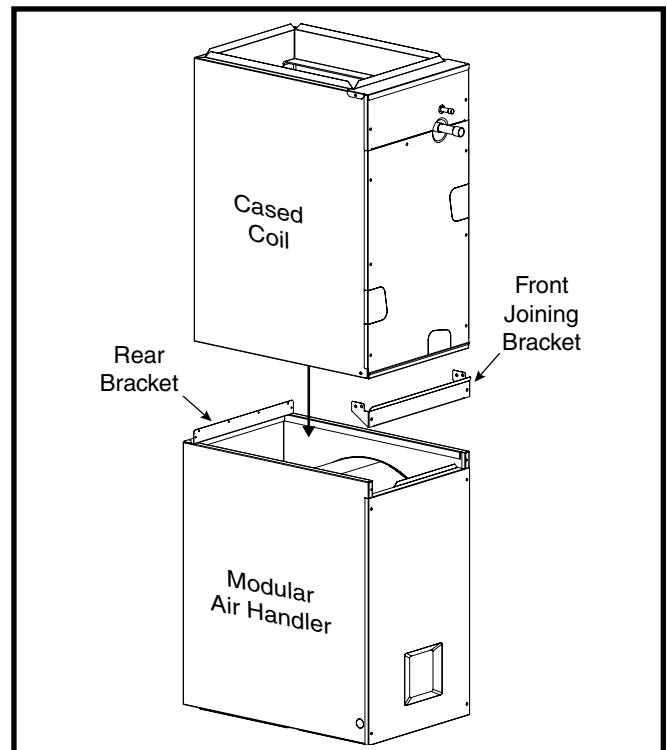

Figure 4. Downflow Brackets
4. Carefully place the cased coil on top of the modular air handler. **NOTE:** Make sure the units are flush in the front and on the sides with a “step” fit in the back and that there are no gaps on the sides. See Figure 4.